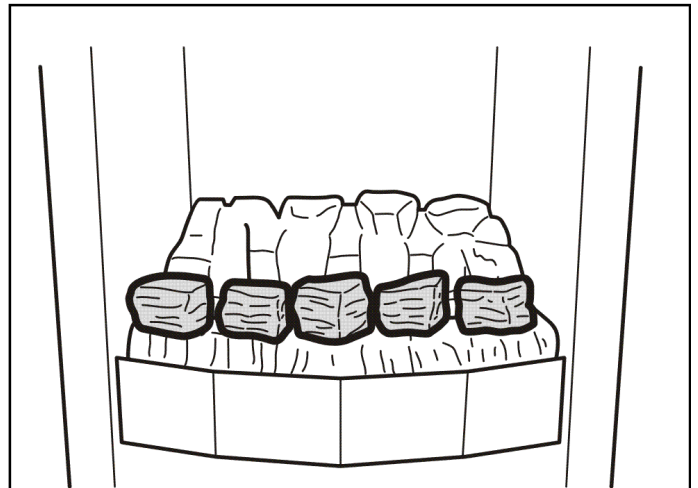

Figure 25. First row of ceramic coals
2. Install the fourteen loose overlay ceramic coals as follows. The smooth surfaces of the ceramic coals should be at the bottom and back. Place five of the ceramic coals along the top of the front base coal (See figure 25). The ceramic coals should be evenly spaced. Each ceramic coal can be rotated to give a random effect. Placing the ceramic coals with flat sides facing forward will give a very uniform appearance.